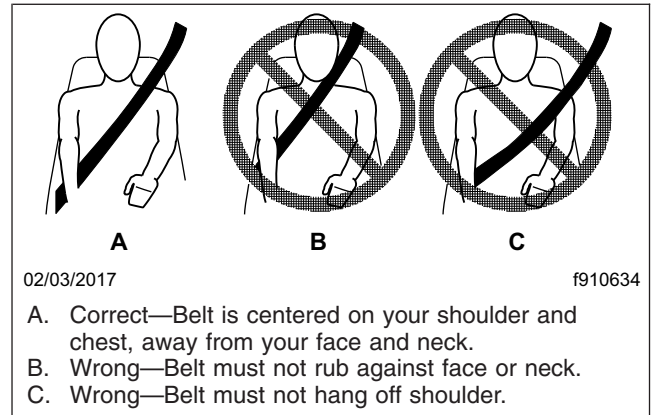

Fig. 6.10, Proper Shoulder Strap Fit
5. Position the shoulder strap diagonally across your chest with the adjustable D-loop bracket (if equipped). The shoulder strap must be centered on your shoulder and chest, away from your face and neck. See Fig. 6.10. If desired, engage the Komfort Latch or Sliding Komfort Latch as follows.
5. Position the shoulder strap diagonally across your chest with the adjustable D-loop bracket (if equipped). The shoulder strap must be centered on your shoulder and chest, away from your face and neck. See Fig. 6.10.